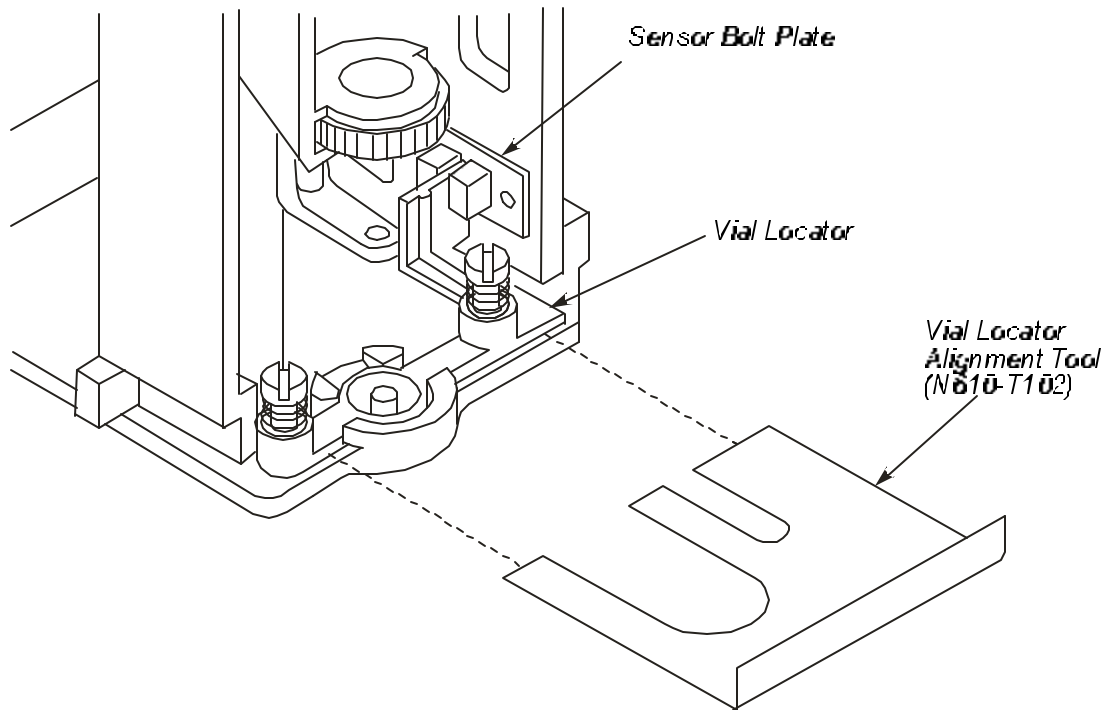

Figure 6-23 Inserting the Vial Locator Alignment Tool
- Vial Locator Alignment Tool (Part No. N610-T102) (see Figure 6-23)